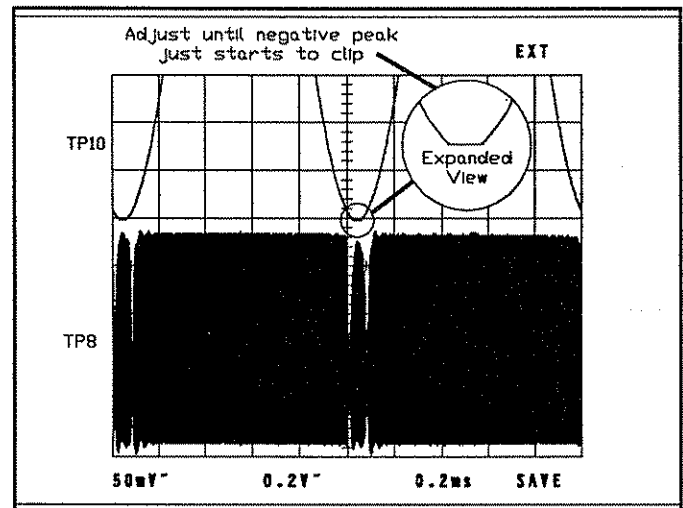

Figure 5-5.
- h. Increase the audio amplitude to 105% L+R. Observe the waveforms at TP8 and TP10. Adjust R143, Negative Limit control, until the RF waveform at TP8 becomes fuzzy and the negative peak of the audio at TP10 just starts to clip. See Figure 5-5.